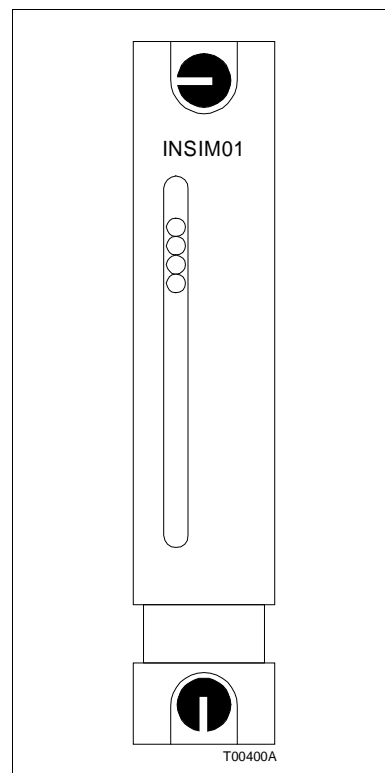
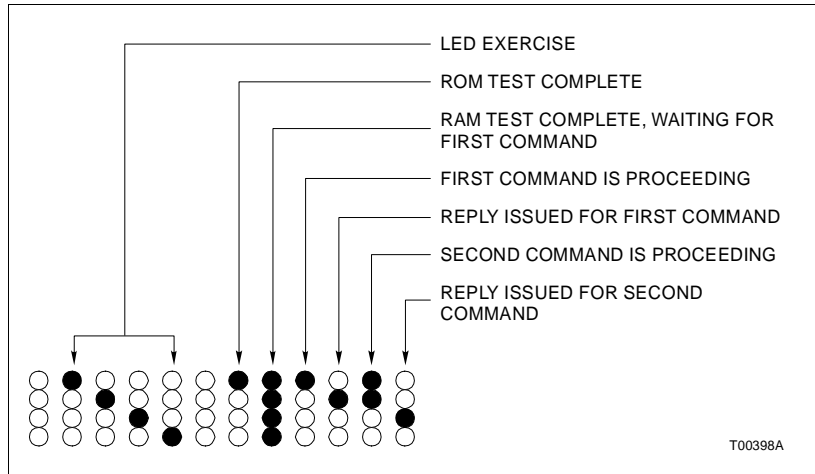

Figure 4-1. SIM Faceplate
Figure 4-2. SIM LED Sequence
The SIM faceplate has a set of four LEDs that count computer commands and replies during normal operation (see Figure 4-1). These LEDs go through an exercise sequence and memory test before normal operation begins (see Figure 4-2).
7. Insert the SIM into its module mounting unit slot. The SIM LEDs should go through their normal sequence (see Figure 4-1).